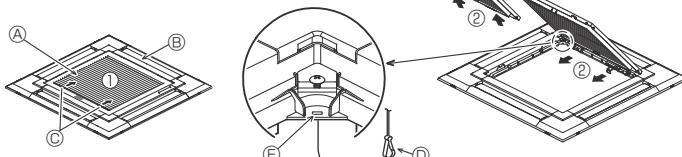
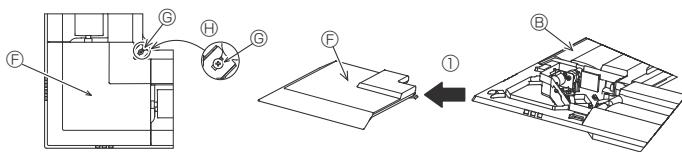

Fig. 7-3
Fig. 7-4
7.2.1. Removing the intake grille (Fig. 7-3)
- Slide the levers in the direction indicated by the arrows ① to open the intake grille.
- With the intake grille in the "open" position, remove the hinge of the intake grille from the grille as indicated by the arrows ②.
7.2.2. Removing the corner panel (Fig. 7-4)
- Loose the 4 screws on the corner. Slide the corner panel in the direction of the arrow ① in the figure and remove the corner panel.
[Fig. 7-3] [Fig. 7-4]